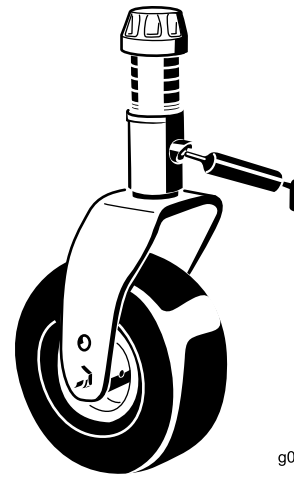

Figure 42
- Castor fork shaft bushings (2) (Figure 42)